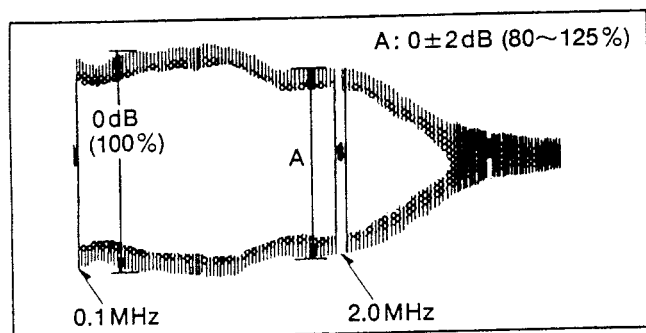

Fig. E10
- (2) Record the sweep signal and playback just recorded portion.
- (3) Adjust the VR3005 so that the level at 2MHz becomes $0 \pm 2\text{ dB}$ comparing with the level at 0.1MHz as shown in Fig. E10.